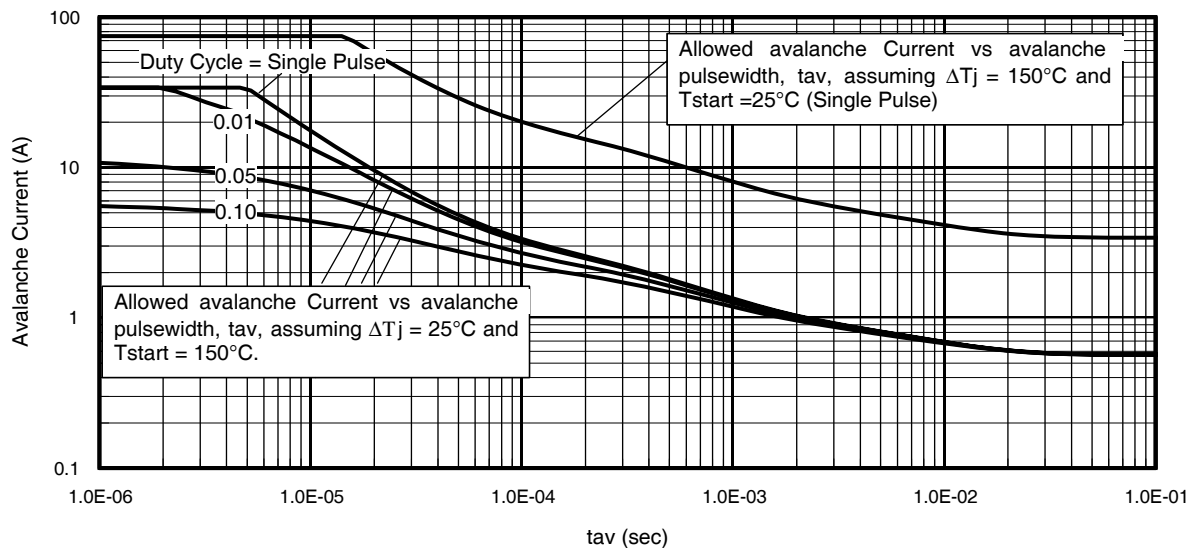

Fig 14. Typical Avalanche Current vs. Pulsewidth
**Notes on Repetitive Avalanche Curves, Figures 14, 15:**
7.  $\Delta T$  = Allowable rise in junction temperature, not to exceed  $T_{jmax}$  (assumed as 25°C in Figure 14, 15).